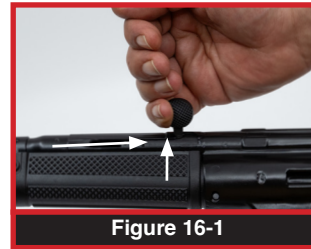

Figure 16-1
1. Lock the charging handle to the rear by retracting the charging handle completely, then lifting the handle upwards into the locking notch (Figure 16-1). The bolt should be locked rearward. Rotate safety lever to the safe position (See Page 11).